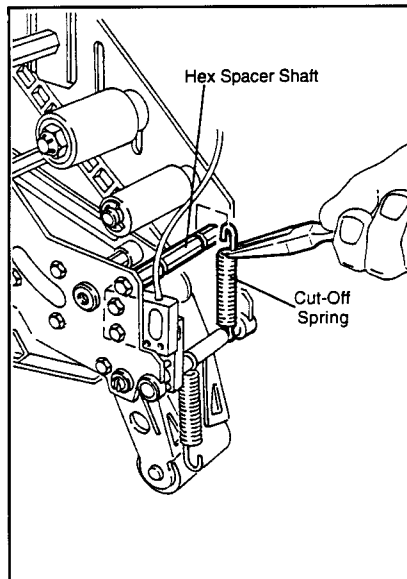

Figure 5
9. Use a needle nose pliers and hook the cut-off spring furthest from the sensor to the hex spacer shaft as shown in Figure 5. **Be sure both spring loops are in shaft grooves.**